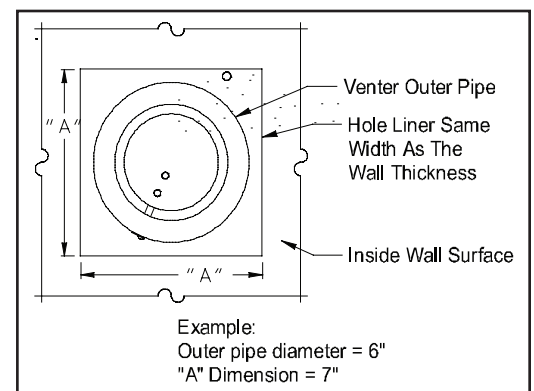
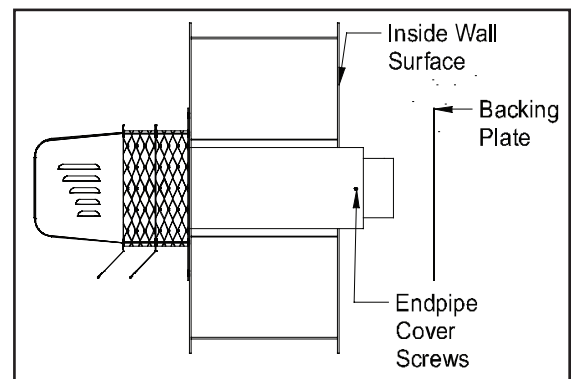

Figure 1
Figure 3
3. After determining the location of the venting system termination point (See Diagram A), cut a square hole through the wall 1" larger than the outer pipe diameter of the power venter. (See Figure 1)
4. Seal the back side of the base plate around the outer pipe of the venter and the conduit with a bead of high temperature silicone sealant. (See Figure 3) Mount the power venter through the wall, keeping the outer pipe centered in the hole. (See Figure 1) Fasten the power venter to the outside wall with appropriate fasteners. Seal the edges of the power venter base plate to the wall with a high temperature silicone sealant.
- NOTE:** If mounting the power venter through a combustible wall material and the flue gas temperature is above 400°F at the power venter inlet, line the square hole with a piece of corrosion resistant sheet metal or non-combustible material. The liner piece should be the same width as the wall section. (See Figure 1) The power venter has a maximum flue gas temperature of 550°F at the venter inlet. For installation through walls over 8" thick, use an SWG Series Extension Kit, Model PEK-4HD.
5. Remove the end pipe cover screws on the sides of the outside pipe and remove end pipe cover. Then mount the backing plate over the outer pipe and route the flexible conduit and pressure switch tube through the holes provided in the backing plate. Fasten the backing plate to the inside wall with appropriate fasteners. (See Figure 3) Re-install cover and end pipe screws.